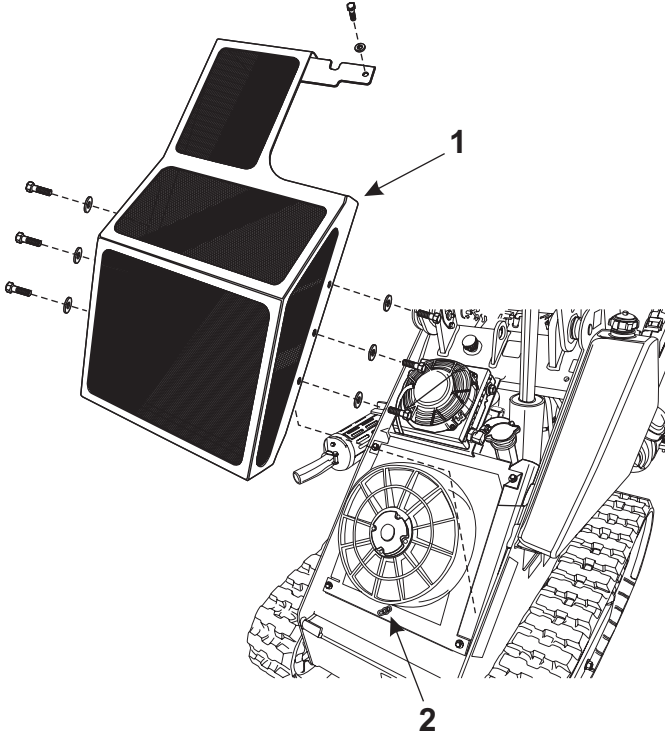

Figure 4-18 Remove Protective Screen
- a. Remove the protective cover screen (Item 1, Figure 4-18).